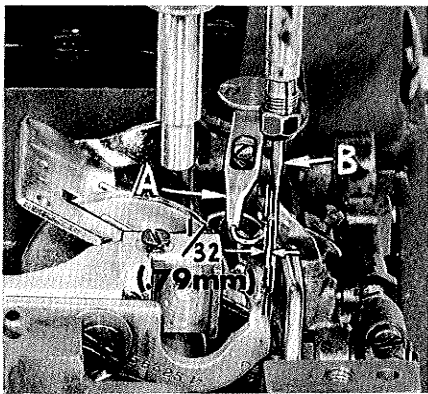

Fig. 18
As the retainer (A, Fig. 18) passes behind the needle (B), going from right to left, and the point of the retainer hook reaches the right side of the needle, the distance between the back of the needle and point of the retainer should be  $1/32$  inch (.79 mm) (See Fig. 18). When the retainer reaches the extreme left end of its travel, the point of the loop retainer hook (A) should be  $5/32$  inch (3.97 mm) from the centerline of the needle (See Fig. 19). These dimensional settings can be made by loosening screws (B, Fig. 19), reposition loop retainer hook (A) as required and retighten screws (B).